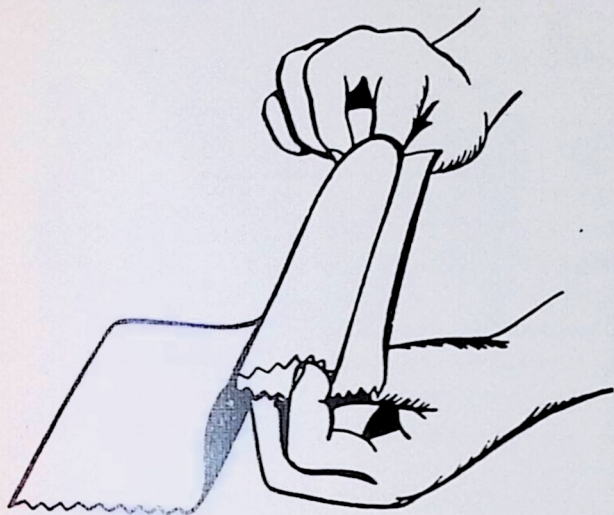

Fig. 29
3. Set stitch length regulator knob (F) at No. 7.
6. With the wrong side of the garment facing you, and with the bulk of the material nearest you, turn the width of the hem under (or away from you), and crease it, permitting the two right sides to be together. Then bring hem back again, allowing one quarter inch of the seam binding to protrude beyond the crease which you have just made in the material. See Fig. 29. Pin in place with pins at right angles to the edge.